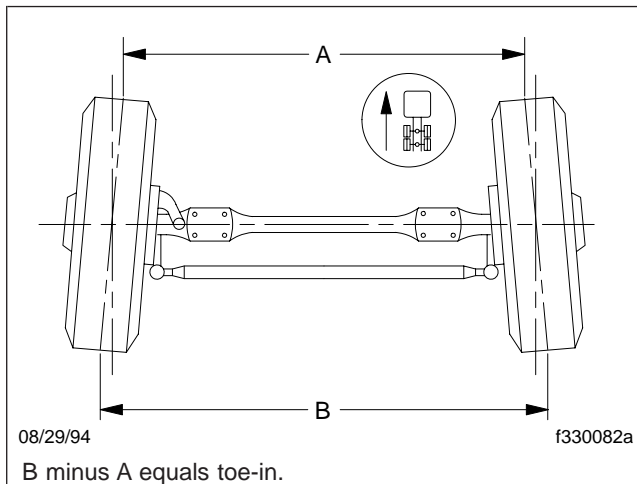

Fig. 5, Wheel Toe-In (Overhead View)
6. Place a trammel bar at the rear of the front tires; locate the trammel pointers at spindle height, and adjust the pointers to line up with the scribe lines on the center ribs of the front tires. See **Fig. 5**. Lock in place. Check that the scale is set on zero.